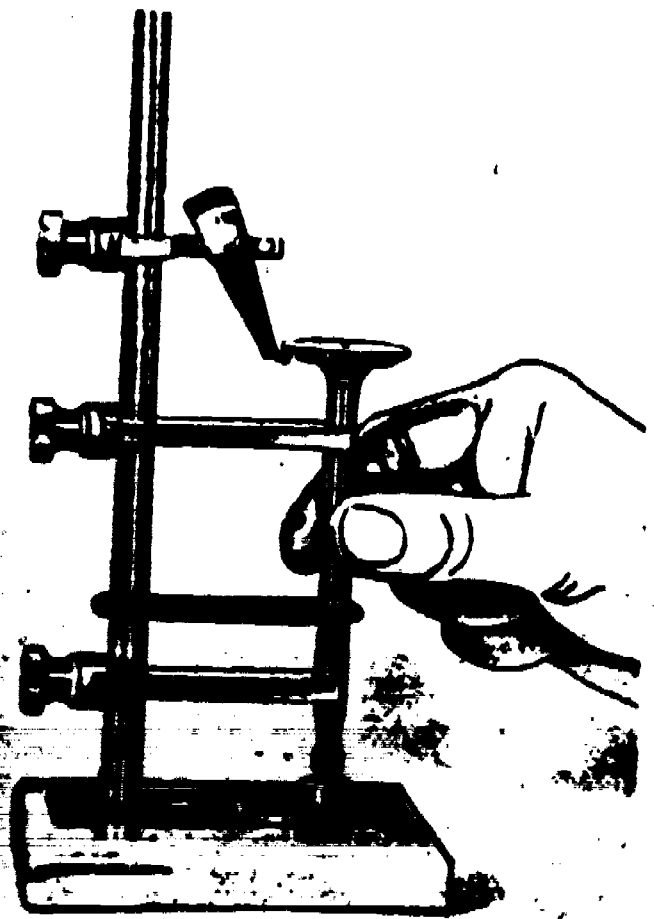

Figure 38. Checking Valve Measurements.
In order to clean valves, a wire brush on a bench grinder is normally used. The valves should then be visually inspected for evidence of burning, stems checked for scuffs, worn keeper grooves or bends. When these visual inspections are completed the following measurements should be accomplished: (1) diameter of the valve stem with outside micrometers, (2) thickness of the margin on the valve head with a steel rule, and (3) the runout of the valve face as illustrated in figure 38. (A dial indicator can also be used.)